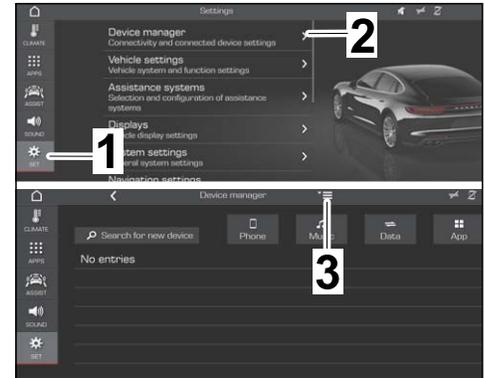

Figure 11
- SET ⇒ Device manager ⇒ Options for each item (⇒ Figure 11)